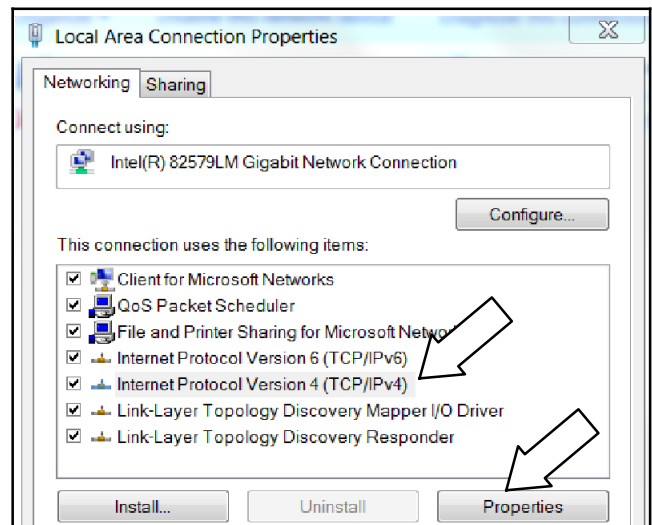

Figure 9 Selecting Internet Protocol Version 4
- 5.5 Select Internet Protocol Version 4. See Figure 9.